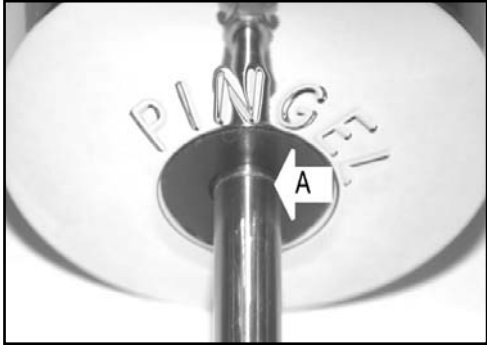

Figure 6
Before adjusting the shift cylinder up or down make sure the motorcycle shift lever is in its resting position. While holding onto the shift cylinder housing, loosen the two screws on the clamp. Find the groove in the center of the cylinder shaft, (A) in Figure 6. Adjust the cylinder housing up or down so the groove in the shaft is aligned with the plastic bushing located on the bottom of the cylinder housing, also shown in figure 6. With the shift cylinder in the correct position, tighten the two bolts of the Pingel clamp.